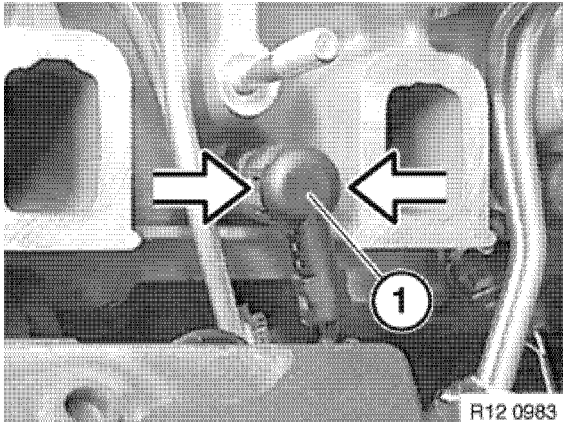

Figure 5-8
3. Release locks and remove connector (1, **Figure 5-8**) from glow plug.